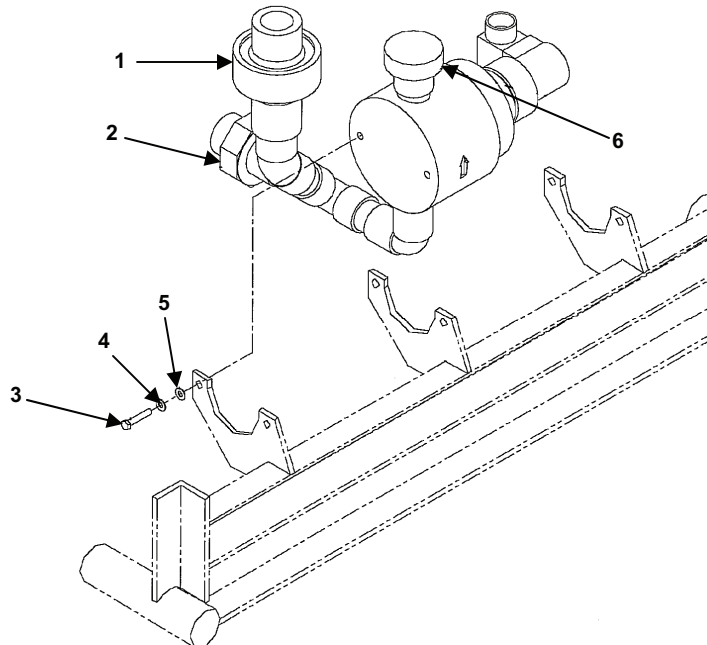

Figure 11. Fast Flush Piping.
2. Loosen the unions (Figure 11, Item 1,2,6). Remove the coil from the solenoid valve. See (WP 0094).
3. Remove screws (Figure 11, Item 3), lock washers (Figure 11, Item 4) and washers (Figure 11, Item 5) from solenoid valve support.
3. Inspect check valve by removing the union (Figure 11, Item 1) and checking the rubber diaphragm inside.
1. Refer to Figure 11 for this piping.
3. Tighten the unions (Figure 11, Item 1, 2 and 6).
4. Fasten the solenoid valves with screws (Figure 11, Item 3), lock washers (Figure 11, Item 4) and washers (Figure 11, Item 5).